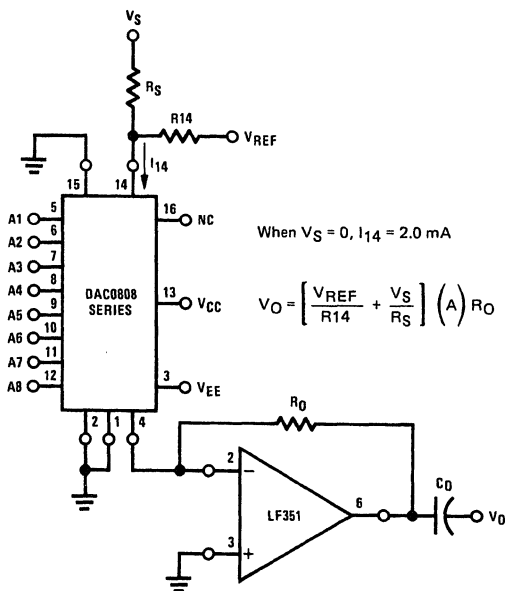

FIGURE 9. Programmable Gain Amplifier or Digital Attenuator Circuit (Note 7)
**Curve C:** Large and Small Signal Bandwidth Method of Figure 9 (no op amp,  $R_L = 50\Omega$ ),  $R_S = 50\Omega$ ,  $V_{REF} = 2V$ ,  $V_S = 100\text{ mVp-p}$  centered at 0V.